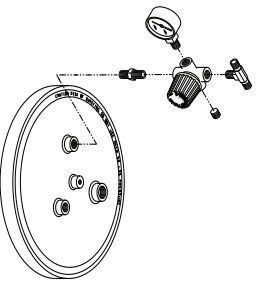

Figure 1
- Assemble the regulator to the paint tank lid as shown in Figure 1: